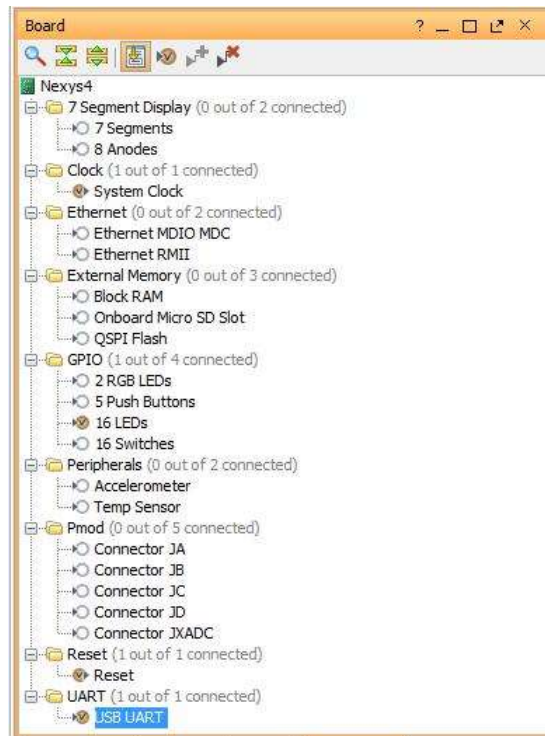

Figure 7 Selected board interfaces
4. From the Board window, select **USB UART** and drag and drop it into the block design canvas (see Figure 7). This will allow you to communicate via the UART interface of the board with your design. This will be used to display simple text messages from your software running on your board, in a console connected with the board via a serial. Click OK in the Auto Connect dialog box.